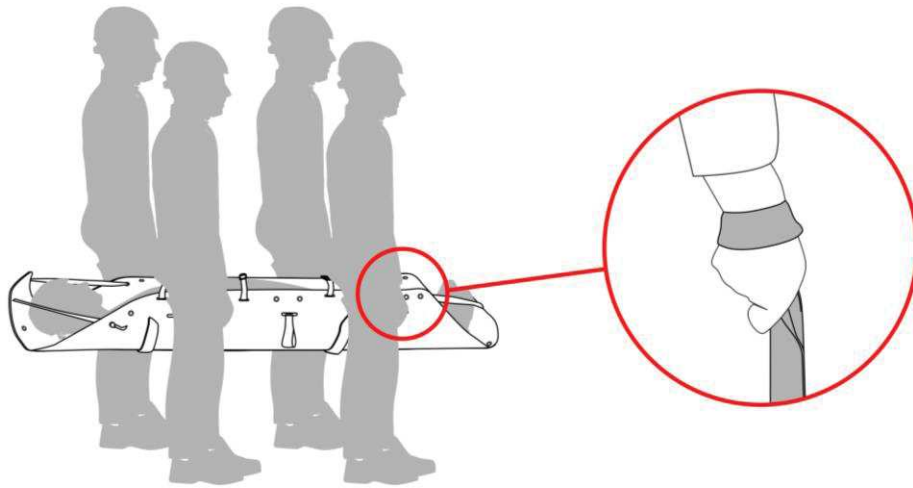
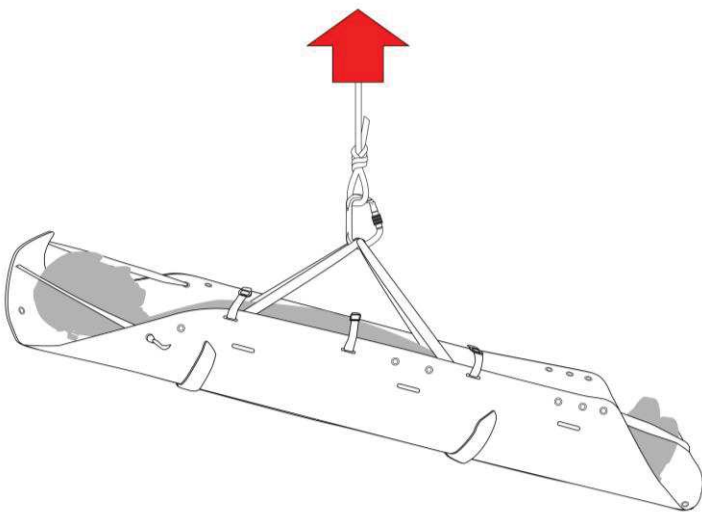
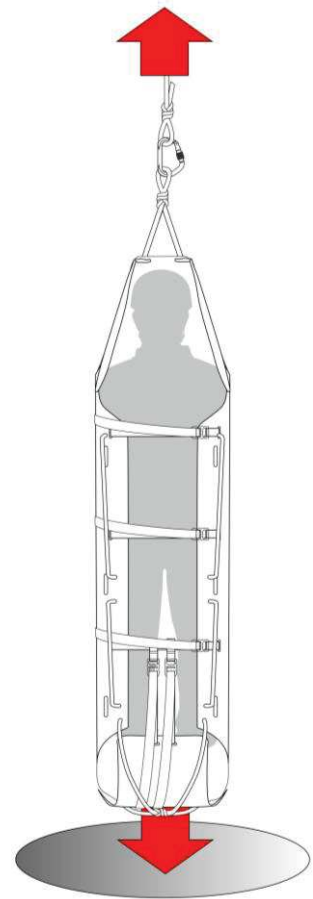

Fig. 3
Fig. 4
Fig. 5
- manual lifting and transport by means of the handles (F) - (fig. 3): 1:3 = user load: 150 kg
- lifting by means of the hanging kit using rescue devices (G) - (fig. 4), 1:10 = user load: 150 kg
- helicopter lifting and transport using the hanging kit (G) - (fig. 4), 1:14 = user load: 100 kg
- vertical lowering and/or lifting by means of the rope using rescue devices (H) - (fig. 5), 1:10 = user load: 150 kg
The stretcher is suitable for lifting and transporting the patient by means of the side handles (fig. 3), the hanging kit (fig. 4) and vertical lowering or lifting by means of the static rope (fig. 5).